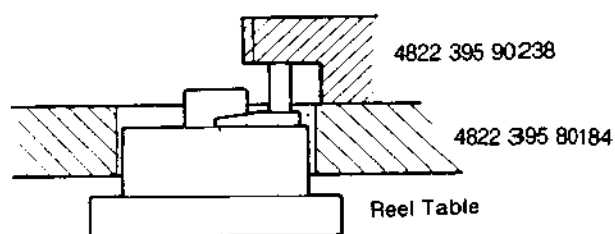

Fig. 2-7
- Measure the top surface of the reel table as shown in Fig. 2-7, and compare the difference against the result of the reference setting. Do the same for the other reel table.